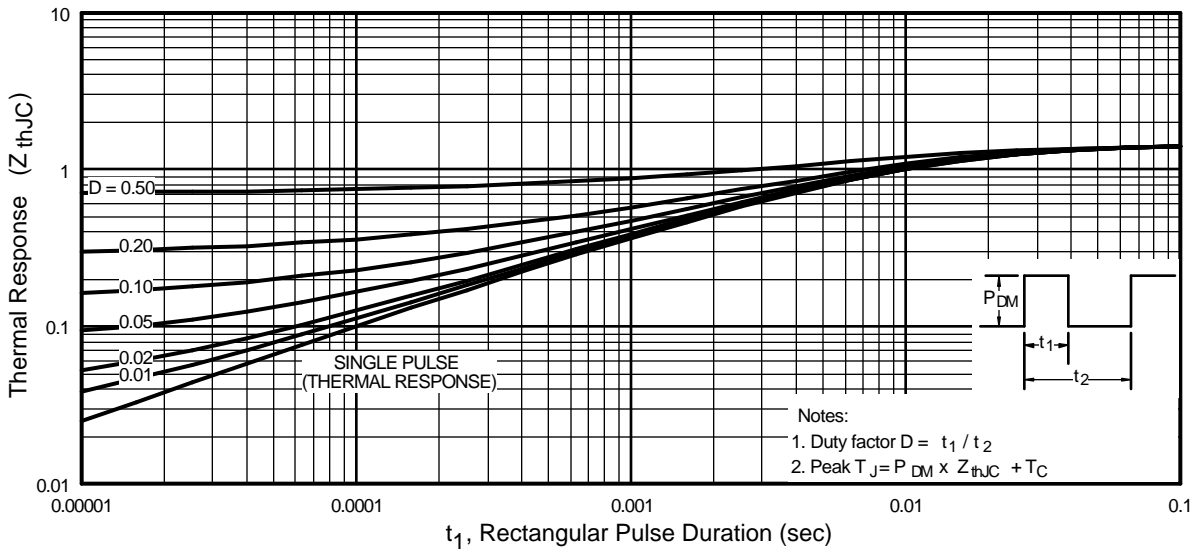

Fig 11. Maximum Effective Transient Thermal Impedance, Junction-to-Case
- ① Repetitive rating; pulse width limited by max. junction temperature. (See fig. 11)
② $V_{DD} = 25V$, starting $T_J = 25^\circ\text{C}$, $L = 470\mu H$